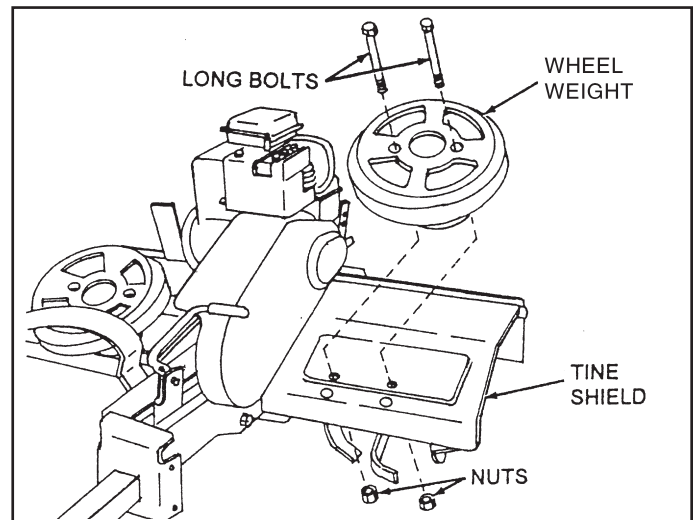

FIGURE 4
- Remove the four hex bolts and nuts located approximately 3-1/2" from the front edge of the tine shields. See Figure 4.
- Secure (wheel) weights to tine shield using bolts and nuts furnished with the weights. See Figure 4.